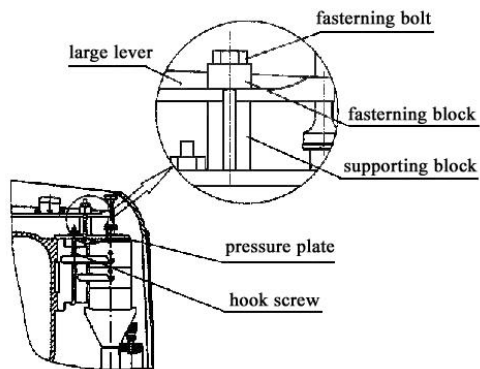

Figure 2
- 4 Remove the fastening bolt by the spanner, take down the fastening block and supporting block. Loosen the nut on the hook screw by a spanner, remove the hook screw and then pressure plate fastening the weights (see Fig 2).